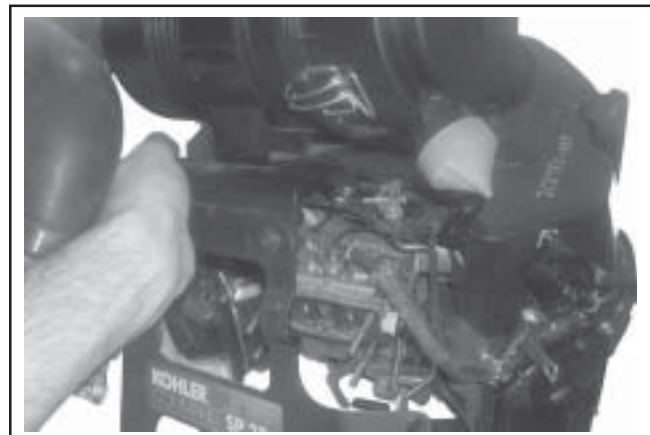

**Figure 9-11. Air Cleaner Bracket/Valve Cover Mounting Screws (Two-Barrel Model Pictured).**
**Two-Barrel Carburetor Models only:** Unhook the choke return spring from the bottom of the air cleaner mounting bracket. See Figure 9-11.